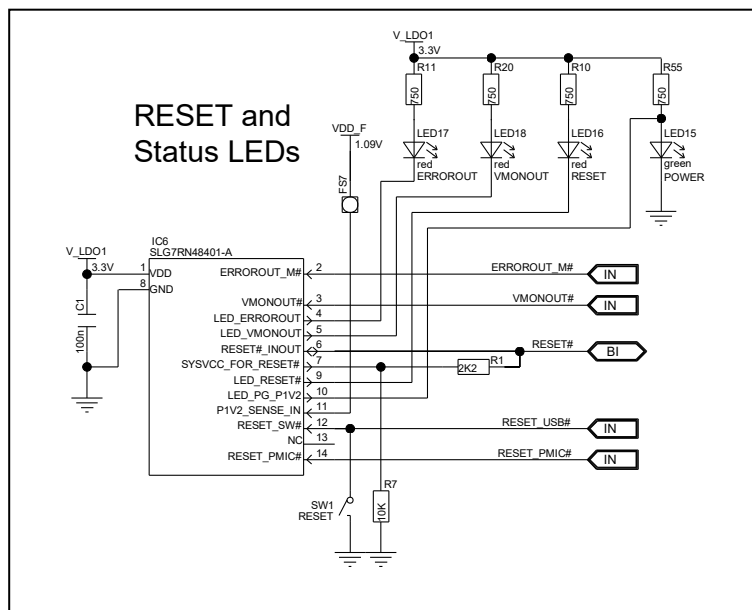

Figure 6.1 RESET circuit and status LEDs
- LED15: PMIC - 1.09V output from buck regulator DCDC2 (VDD) (see Figure 6.1 RESET circuit and status LEDs)
Figure 6.1 shows the circuit of the GreenPAK IC.